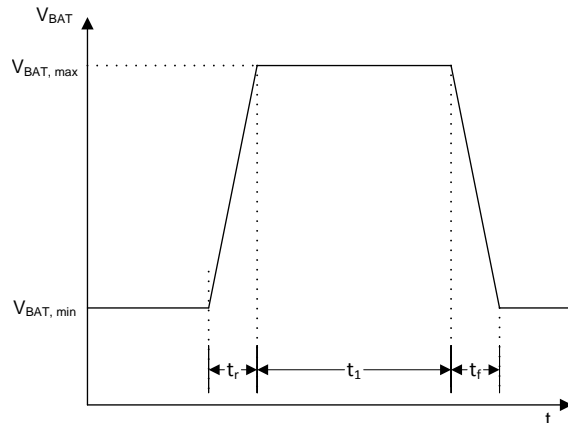

Figure 44. Voltage Profile to Test a Jump Start Event
- To emulate a jump start event, voltage profile described in Figure 44 is used.